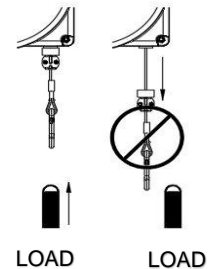

Fig. 03
- Lift LOAD [See - Fig. 03] to retractor and attach it to the carabiner hook, making sure the spring-loaded latch of carabiner is fully closed. If carabiner comes with a Lock Nut, make sure to lock the latch in place by means of Lock Nut.